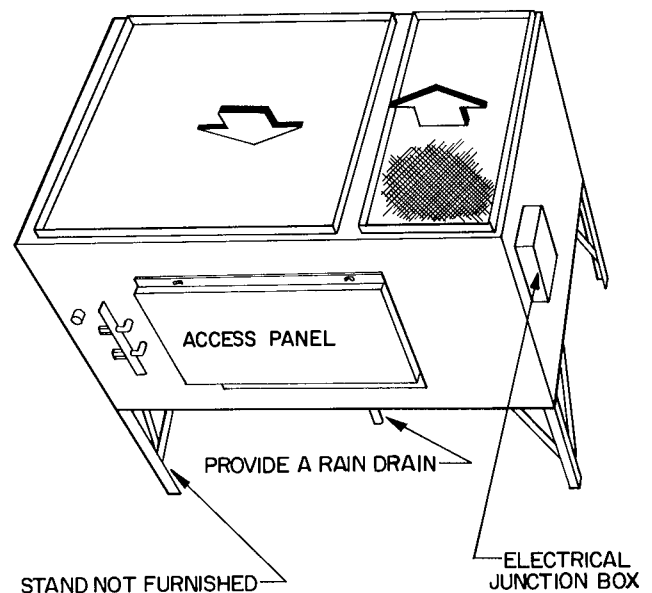

Fig. 5 - 09BB Vertical Discharge
**Vertical Discharge** - 09BB unit can be mounted as shown in Fig. 5. It will be necessary to relocate the electrical junction box either external to unit (as shown) or on an interior panel.
**IMPORTANT:** For vertical discharge unit, provide a rain drain on back of unit (Fig. 5). On all units, before connecting drains trim away insulation blocking the hole(s).